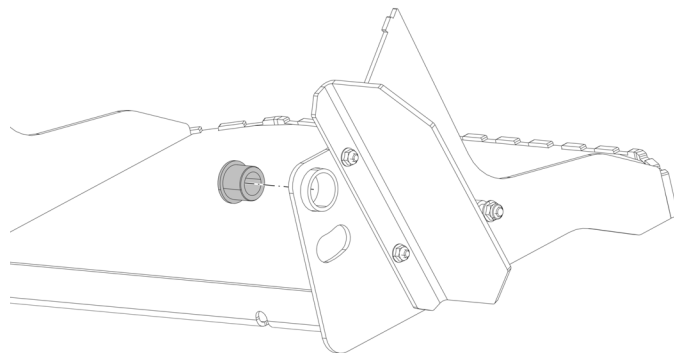

Figure 1-2. Pivot Bearing Installation
2. Using side cutters, cut the two (2) cable ties securing the footplate springs to the machine frame.
3. Install the pivot bearing (P# 486834) in the footplate assembly. See Figure 1-2.